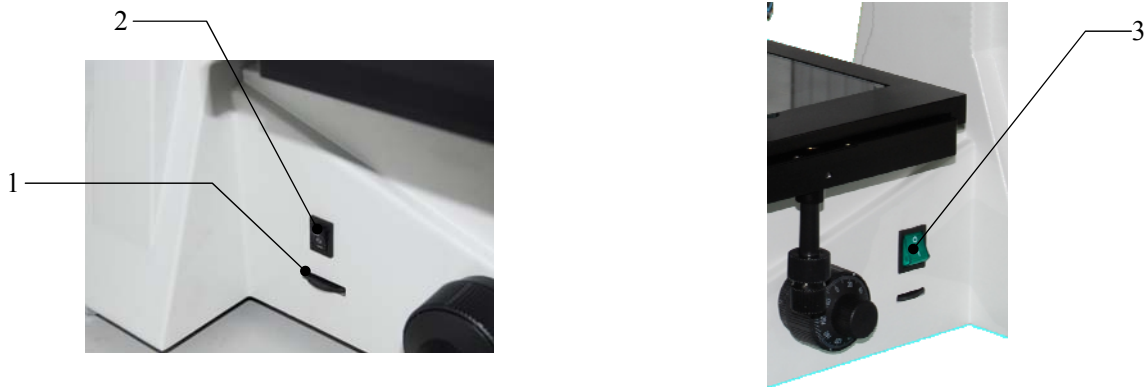

Fig.19
When using MSP for transmission measurement/observation, please switch off the power switch 3, and switch on the transmission light switch 2, turn the brightness adjustment knob 1 to the right brightness of field for eyes, as shown in Fig.19
- (2) Wait at least 30 minutes until the bulb and its surroundings have cool down. This is to prevent hand getting burnt by heat.
- (3) Loose the plastic screw and open the lamp house cover as shown in fig.19-d, take out the defective bulb and replace a new one. Close the back cover again.
- (4) Connect the power cord and turn on power switch.
- (5) Check and adjust the center of the bulb according to the above-mentioned centering method for alignment of illuminator in the inverted microscope .